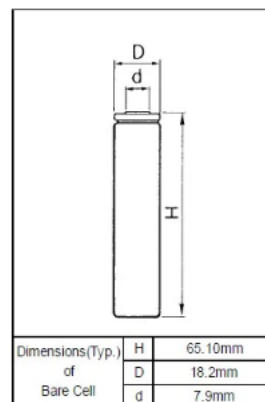

Figure 2: Dimensions of a single 18650 lithium ion cell to be used in the power pack.
- The mounting plate for the robotic arm shown in Figure 2 has an outer diameter (OD) of 150 mm, featuring 4 x M10 bolts at a pitch circle diameter (PCD) of 120 mm.
Figure 2: Design details of the robotic arm mounting plate with an OD = 150 mm to be fixed to the rover. Use 10 mm hole diameter for M10 bolt with a clearance fit, and PCD of 120. No need to include the centre hole with ID.
Must provide attachment points for Suspension, Robotic Arm (see Figure 2), Camera Mast, and housing for Powerpack and Solar Panel. Must provide a container that is big enough for housing regolith collected in a single trip. Can be designed as a single part or assembly of multiple parts. Recommended material for estimation of weight include, aluminium, titanium, carbon-fibre polymer composite, or steel.
Figure 2: Design details of the electric motor for the rover drive system. 6 x M6 mounting plate fasteners can be provided at the front or rear face of the motor.
Design a 12V DC power supply using Li-ion 18650 cells, which has an energy density of 250 Wh/kg (gravimetric) or 559 Wh/l (volumetric). Must consist of an assembly of individual cells contained within the housing, e.g. a pack of 40 individual cells. The 18650 lithium ion cell shall be cylindrical shaped with the following dimensions: Diameter = 18.2 mm and Height = 65.10 mm, as shown in Figure 2. Teams can exclude the details of the contact point and cutout seen on the cell in Figure 2. Recommended material for estimating powerpack weight include, lithium-ion with mass density of 2700 kg/m³. The Rover shall have onboard 12 V solar panel rated at 20 W with a dimension of 20mm x 200mm x 300mm (Height x Width x Length), and weighing 2.15 kg for recharging operations (i.e. specific power of 9.2 W/kg). Solar panel can be designed as a single part with minimal design details. Assign the design task for Powerpack and Solar Panel to the fifth member of your team who is less active or inactive.